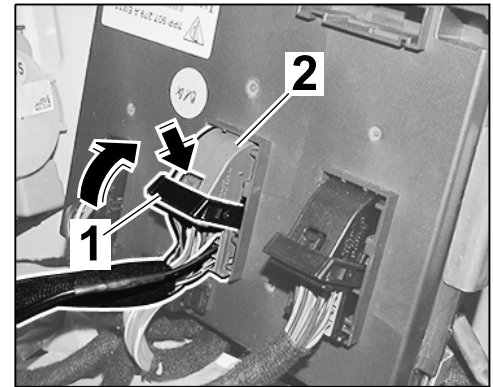

Figure 34
- 4.6.4 Release the centre electric plug connection ⇒ *Figure 34-2-* (blue) by pressing the locking mechanism ⇒ *Figure 34-arrow-* and swivel the clip ⇒ *Figure 34-1-* upwards ⇒ *Figure 34-arrow-*.